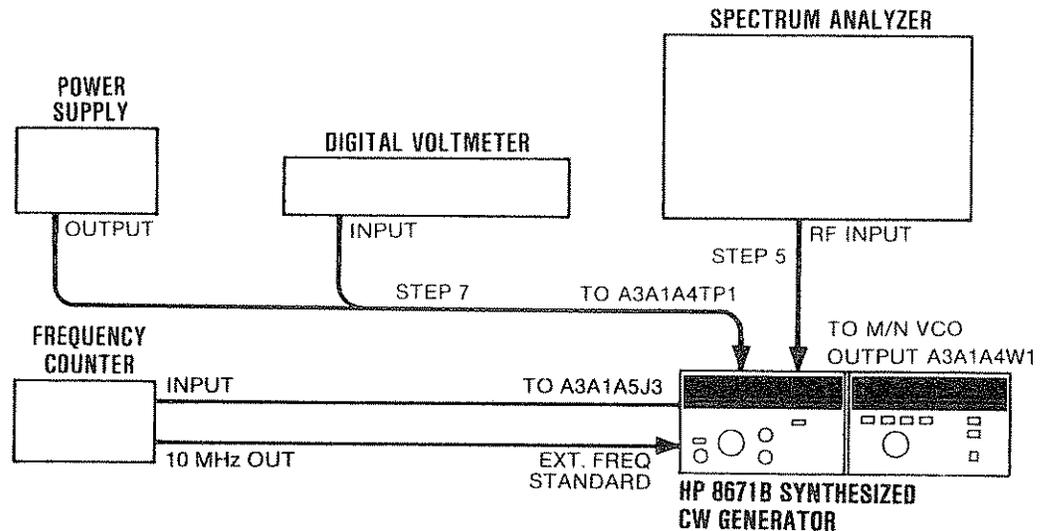

Figure 5-3. M/N VCO Adjustment Test Setup
2. Connect the equipment as shown in Figure 5-3.